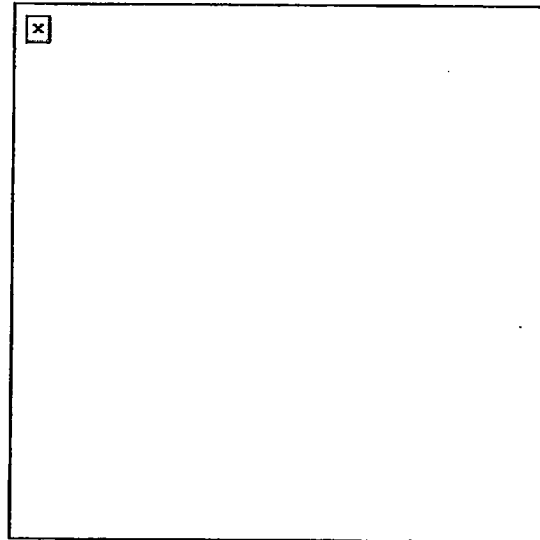

Figure 1. Disassembly lever button.
- c. With your forefinger, press the disassembly lever button (Figure 1).
- e. Pull the slide and barrel assembly forward (Figure 1), and remove it from the receiver.